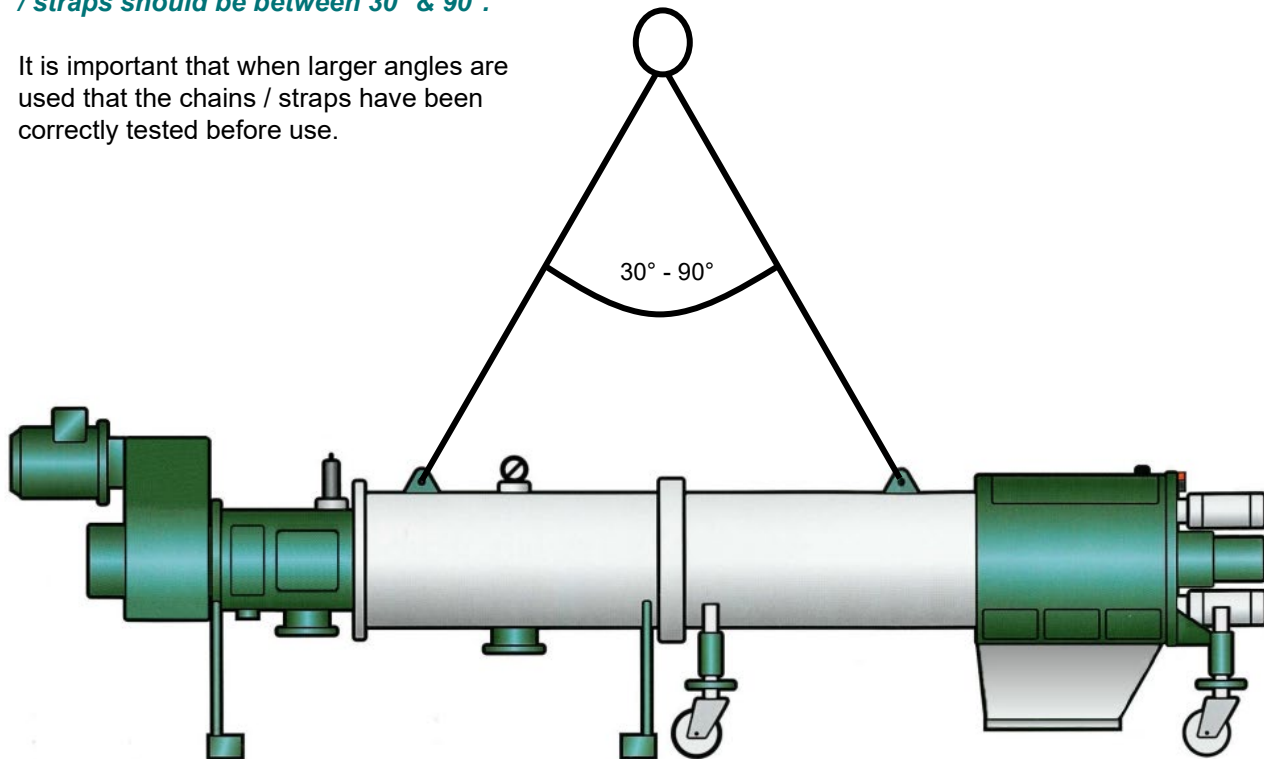

Figure 4.c: Lifting Arrangement
- Lift the machine into position using appropriate and certified lifting equipment, such as a crane, ensuring that the machine is lifted using its lifting lugs. See Figure 4.a.
- Lift the machine from its position using appropriate and certified lifting equipment, ensuring that the machine is lifted using its lifting lugs. See Figure 4.a.